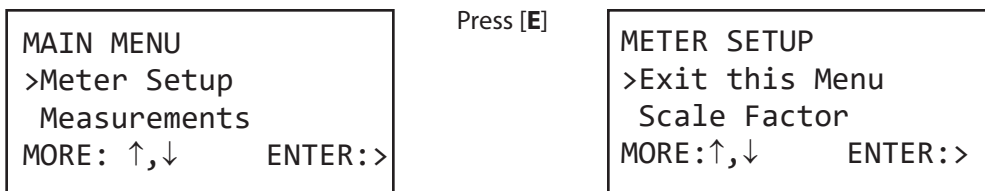

Figure 32: Go to meter setup
**Example 1:** *Figure 32* shows the *Main Menu*. The selection arrow points to the *Meter Setup* selection. Press [E] to select Meter Setup and open the *Meter Setup* display.